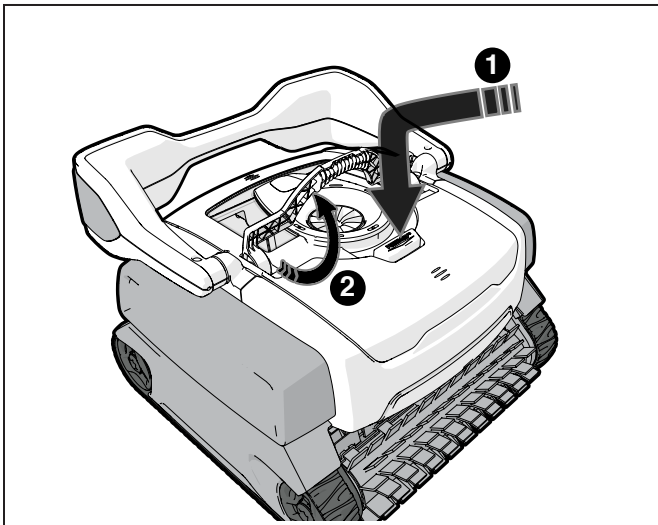

Figure 15. Release Filter Canister Handle
2. Press the PUSH 'N' GO® button (1) to release the filter canister handle (see Figure 15).